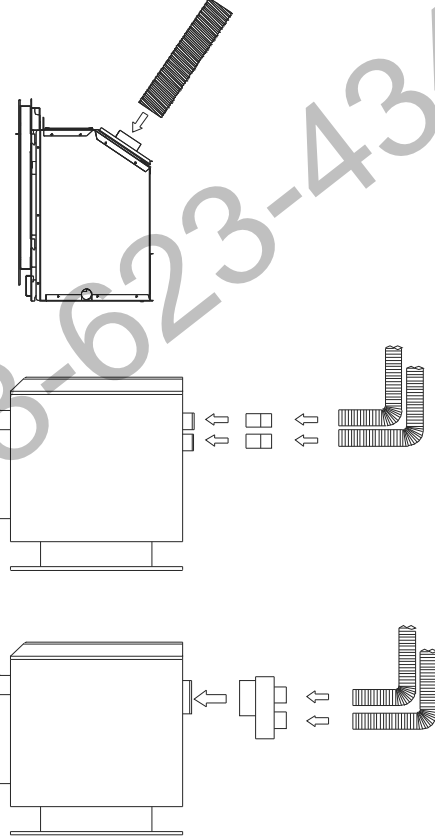

Figure 8
11. Depending upon the type of connection that your appliance has, it will require either the Colinear Flex Connectors or a Colinear Appliance Adapter or the flex directly to the appliance, in order to attach the Flex Liners to the appliance. For the Colinear connection, attach the Colinear Flex Connectors to the two outlets on the back of the appliance. See the appliance manufacturer's instructions for details. Connect the two Flex Liner runs to the Connectors using four sheet metal screws each. For the Co-Axial connection, install the Colinear Appliance Adapter to the adaptor on the appliance. Attach the Flex Liners to the Appliance Adapter using four sheet metal screws each. (Figure 8) In either case, make sure the Flex Liners do not sag behind the appliance. Finally, move the appliance into its appropriate place.